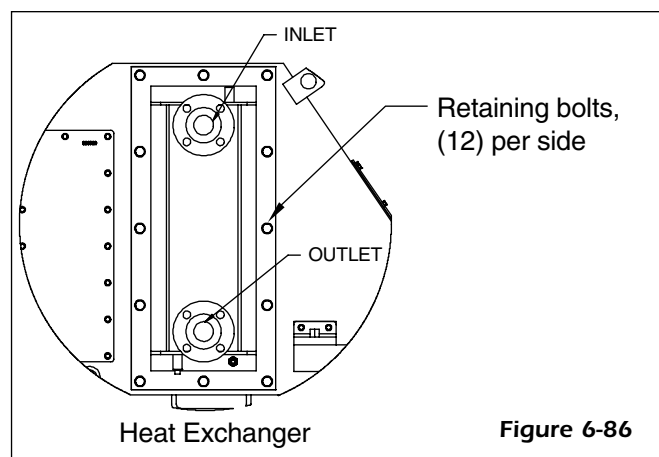

Figure 6-86
4. Install the bolts securing the heat exchanger to the TEWAC enclosure on both sides. (Figure 6-86)